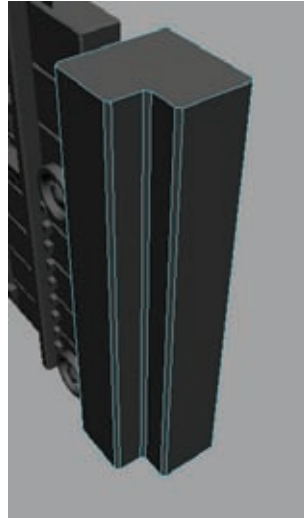

Figure 5.29
1. Create a cube that is 6 units wide, 6 units long, and 25 units high. Just as with the previous column (back in the Module 2 section), select the forward, right edge and bevel it, adding a second Segment and repositioning the center segment edge to carve an L-shaped wedge into the corner of the cube as in Figure 5.29. Don't forget to use Snap Align to help keep things square. Bevel all the vertical edges to round them a bit.